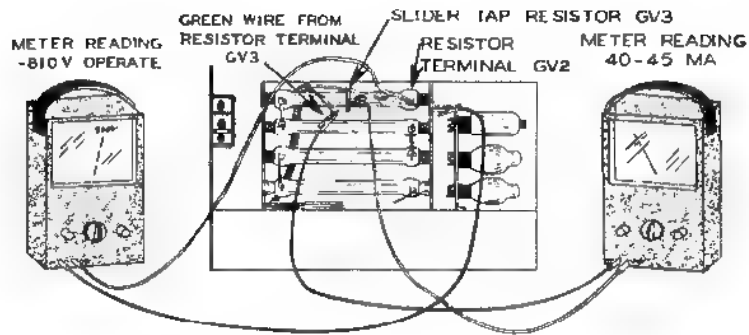

Figure 35B
- () Again referring to test setup shown in Figure 35B, CAREFULLY connect a Volt-Ohm-Milliammeter between chassis ground and screen resistor terminal GV1, using the 1500 volt scale. Disconnecting the wire from the SLIDER on resistor GV, connect another VOM (set at its 150 ma scale) between the slider and the disconnected lead as shown.